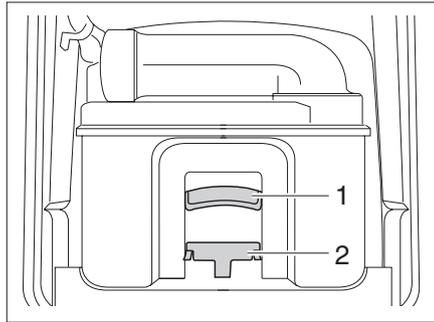

Fig. 106 Thetford cassette
- ▶ Pull the retaining clip (Fig. 106,2) forward to unlock the toilet cassette and pull out the cassette at the handle (Fig. 106,1).